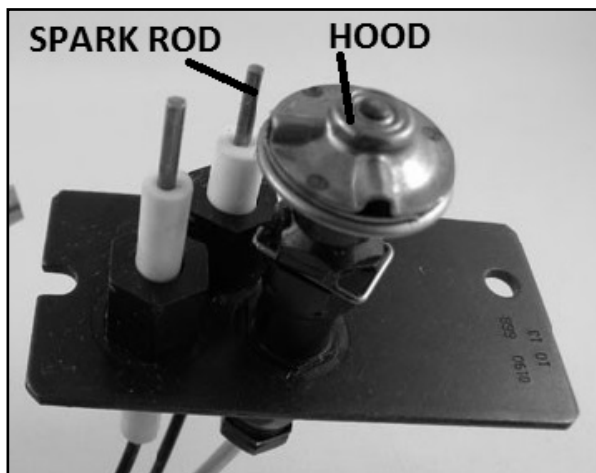

Figure 16
- b) Check the pilot system for proper flame size and operation. Clean pilot free (Fig 16) of soot, dust or any other deposits.